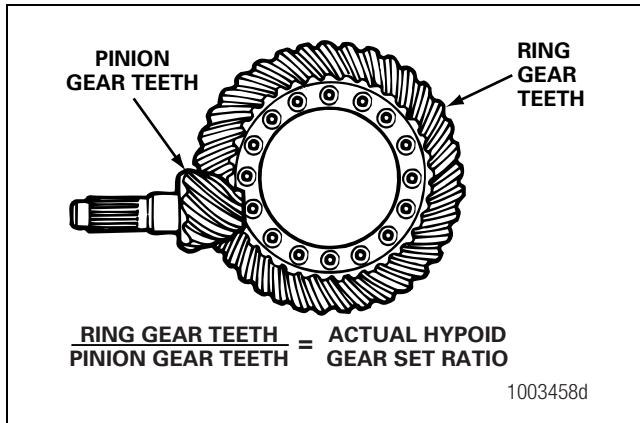

Figure 4.22
1. Count the number of ring gear teeth. Figure 4.22.
- Count the number of pinion gear teeth. Figure 4.22.
- Divide the number of ring gear teeth by the number of pinion gear teeth to determine the actual hypoid gear set ratio for each axle. Figure 4.22.